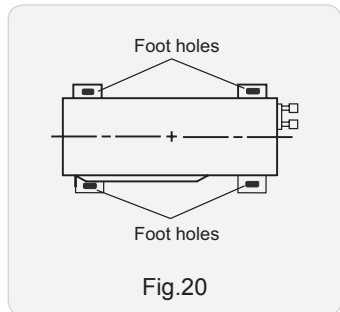

Fig.20
(1) Place the outdoor unit on the support.
(2) Fix the foot holes of outdoor unit with bolts.(As show in Fig.20)